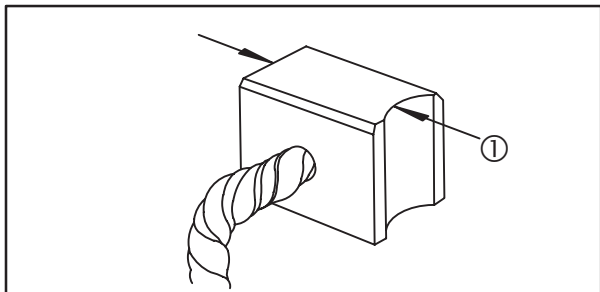

Fig. 37
Minimum brush dimension (1) is **1/4” (6 mm)**. If brushes are worn less than specification, replace the starter housing, Fig. 37.